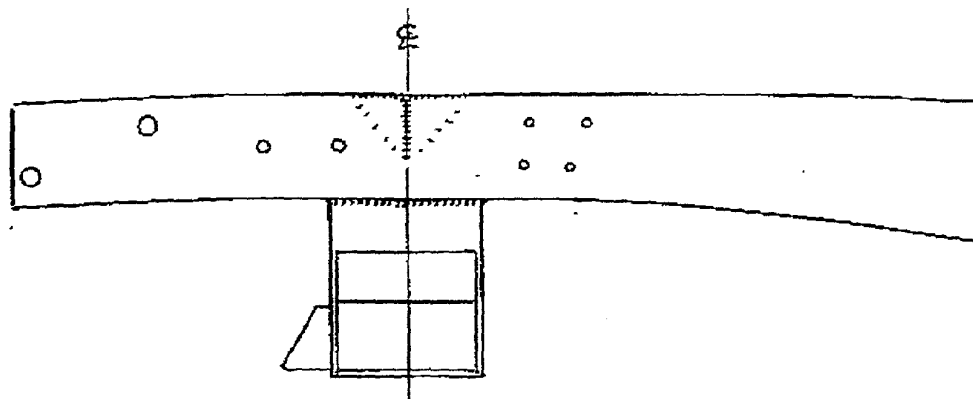

Figure 3
7. Now it is time to start fitting and installing the new components in the frame. Start with the new crossmember. Slip it into the frame, center it on the scribed axle center line (Figure 3). If it does not fit, grind the sides of the crossmember until you can get the crossmember in place, as shown. Tack weld in place, check location, then weld in place, welding all around both ends, top, sides, and bottom. If you installed a temporary brace across the rails, you can now remove it.